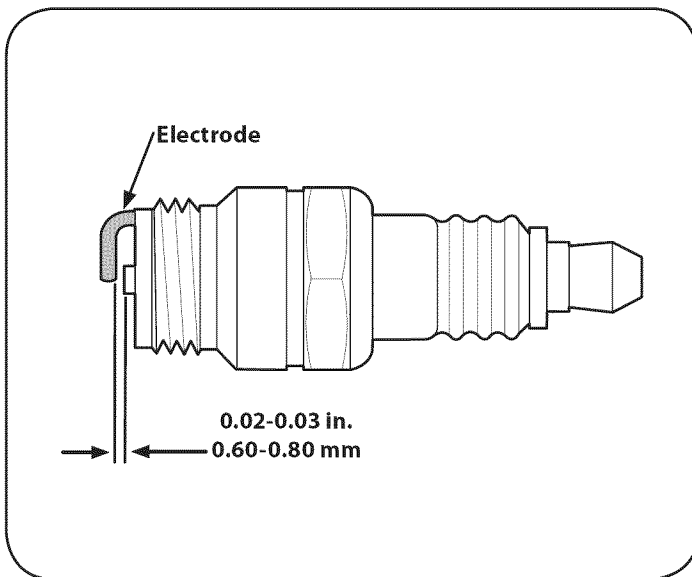

Figure 21
3. Measure the plug gap with a feeler gauge. Correct as necessary by bending side electrode. See Figure 21. The gap should be set to 0.030 in.